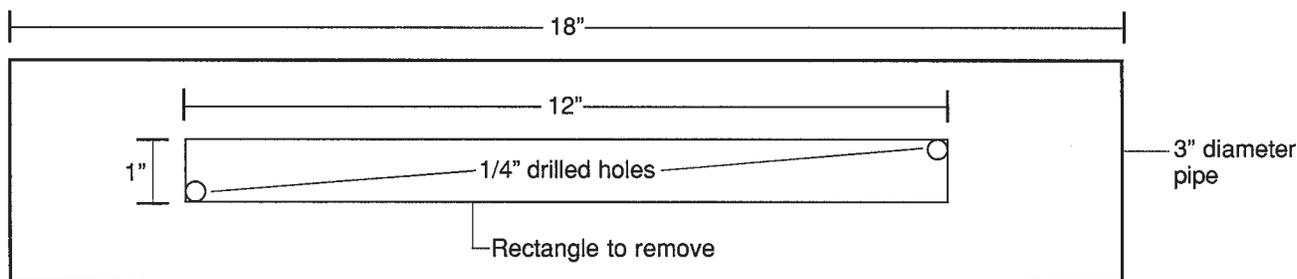

Figure 7. Procedure for cutting slot opening in 3" diameter pipe.
3. Draw a 1 inch x 12 inch rectangle lengthwise on the pipe. The rectangle must be parallel to the centerline of the pipe and 3 inches from either end (Figure 7).
4. Drill 1/4 inch diameter holes just inside two opposite corners of the rectangle as shown in Figure 7.